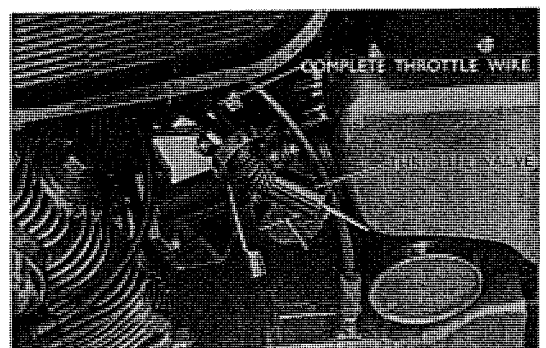

Fig. 4.4 Removing cable end from the throttle valve
4. For disassembling the throttle cable, loosen and remove the carburetor cap: the throttle valve can be pulled out. Remove the cable end from the throttle valve. (Refer to Fig. 4.4)